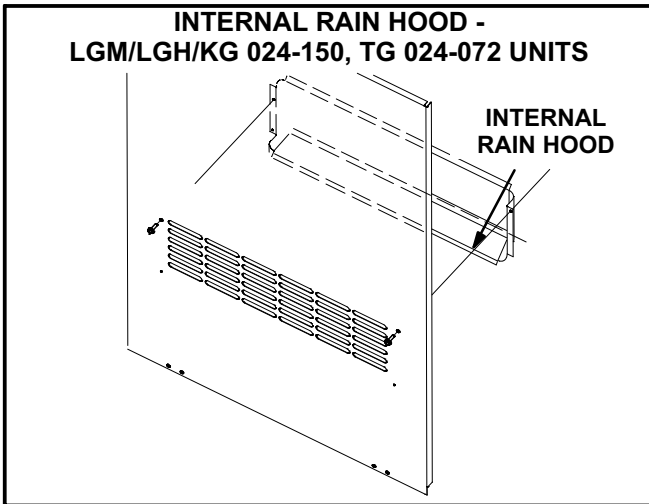

FIGURE 4
- 1- Remove internal rain hood as shown in figure 4.